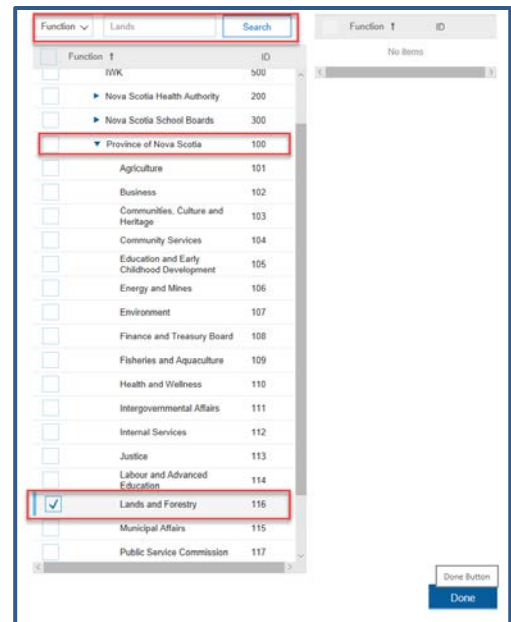

Figure 17
5. Select the box beside the required Commodity or Department (Figure 17).